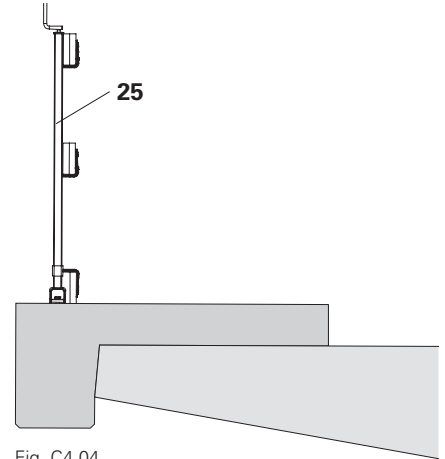
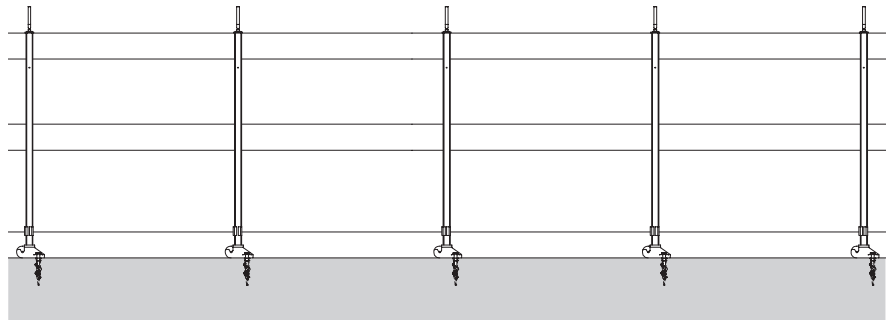

Fig. C4.04
Fig. C4.05
- Tighten and slightly tension bolt M16 x 120 (**43**) together with washer ISO 7094 100 HV, A16 (**44**). (Fig. C4.04 – Fig. C4.05)